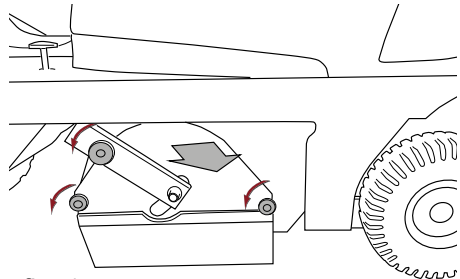

fig. 17
- Unscrew and remove the three knobs fixing the brush compartment cover (fig. 17).